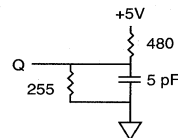

Fig. 2 OUTPUT LOAD EQUIVALENT
- ^tHZCE, ^tHZOE and ^tHZWE are specified with CL = 5pF as in Fig. 2. Transition is measured ±500mV from steady state voltage.
- Output enable (OE) is active (LOW).